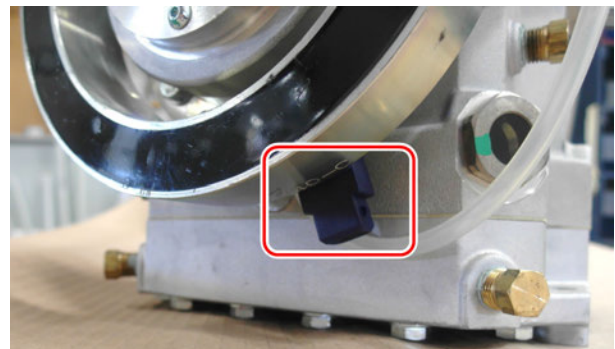

FIGURE 45: CONNECTOR LOCATION
2. Reinstall the coil (figure 45).